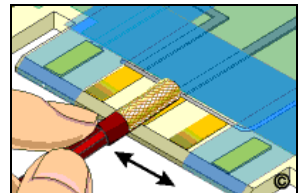

Figure 7: Swab all the contacts by brushing the surface with the saturated plating probe.
6. Swab the entire surface to be plated by brushing the surface with the saturated Plating Probe. The Plating Probe should be moved back and forth briskly to prevent burning and to provide even coverage. (See Figure 7) Swab the area for the time recommended in Table 1.